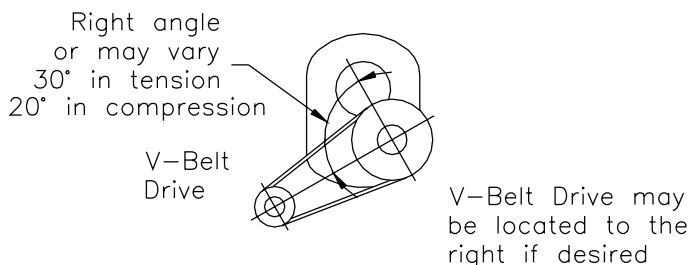

Figure 3 - Angle of V-Drive
5. If not using a Dodge Torque-Arm motor mount, install motor and v-belt drive so belt will approximately be at right angles to the centerline between driven and input shaft (see Figure 3). This will permit tightening the v-belt with the torque-arm.